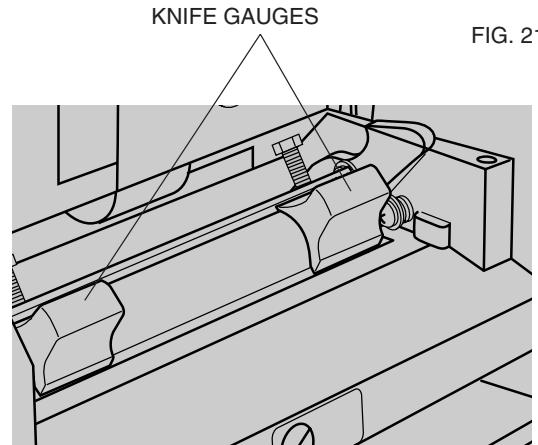
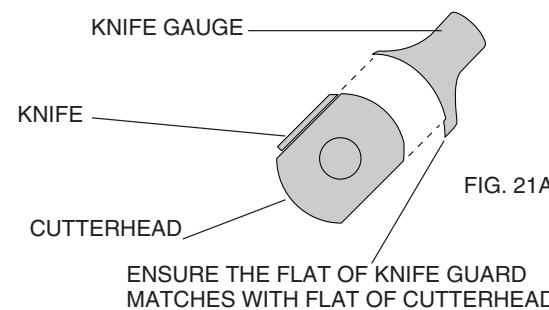

FIG. 21
FIG. 21A
- 3) Place the two magnetic knife gauges (located in the tool tray) onto the cutterhead as shown in Figure 21. Ensure the flat edge of the knife gauge is in contact with the flat edge of the cutterhead (Figure 21A). This positions the knife properly on the cutterhead.